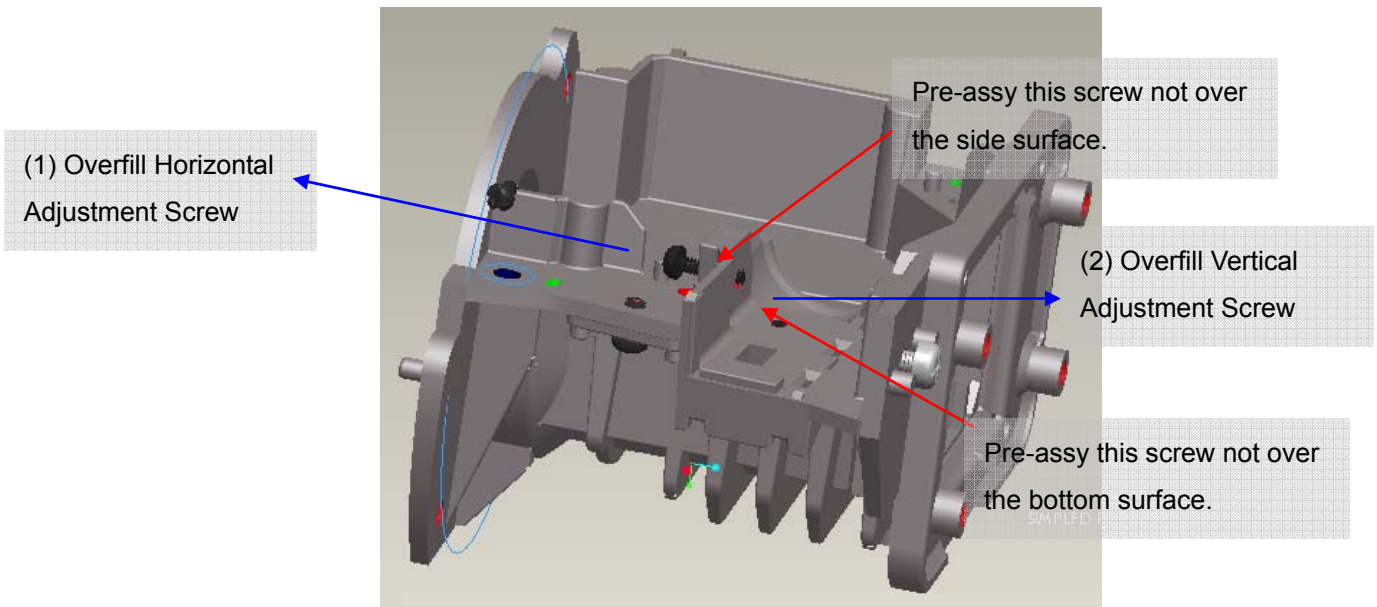

Fig. 5-10
- i. Pre-assembly 2 adjusting screws. Criteria shown as Figure 5-10.